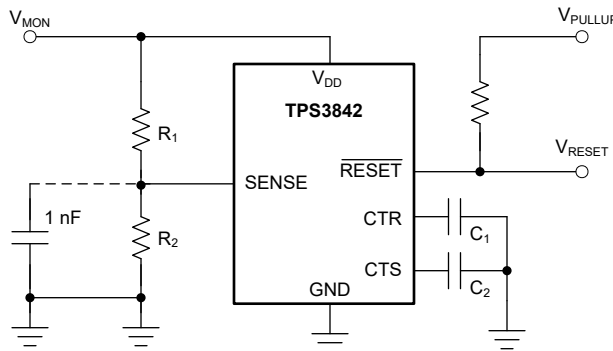

Figure 7-3. Using the TPS3842A011DRLR to Monitor a User-Defined Threshold Voltage
Figure 7-3 illustrates an example of how to adjust the voltage threshold with external resistor dividers. The resistors can be calculated depending on the desired voltage threshold and device part number. TI recommends using the 700mV threshold option when using an external resistor divider. The variant bypasses the internal resistor ladder for higher accuracy when using external resistors.
For example, consider a 12V rail, V_{MON} , being monitored for undervoltage (UV) using of the TPS3842A011DRLR variant, as shown in Figure 7-3. The monitored UV threshold, denoted as V_{MON-} , is the desired voltage where the device asserts the reset. For this example $V_{MON-} = 5.8\text{V}$. To assert an undervoltage reset the voltage at the sense pin, V_{SENSE} , needs to be equal to the input threshold negative, V_{ITN} . For this example variant $V_{SENSE} = V_{ITN} = 0.7\text{V}$. Using R_1 and R_2 the correlation between V_{MON-} and V_{SENSE} can be seen in Equation 1. Assuming $R_1 = 100\text{k}\Omega$, and R_2 can be calculated as $R_2 = 13.7\text{k}\Omega$.